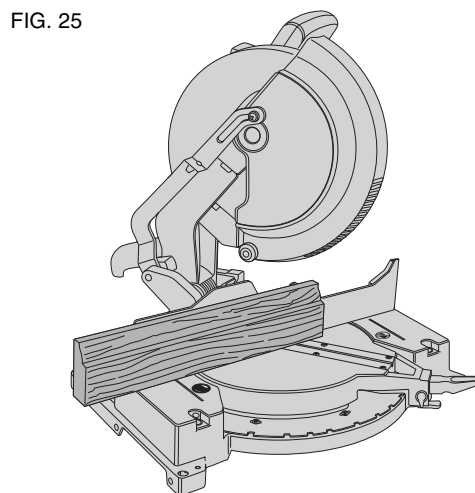

FIG. 25
Position molding as shown in Figure 25.
When mitering to the right side of a base molding wider than 3.5" (88.9 mm) standing vertically against the fence as in Figure 25, the saw can only cut through the board up to 1 inch from the end of the board. Trying to cut more than an inch will cause the saw's gear case to interfere with the workpiece. If you want to cut base molding between 3-1/2" (88.9 mm) and 4.25" (107.95 mm) wide vertically follow the directions below.
- Position molding as shown in Figure 25.